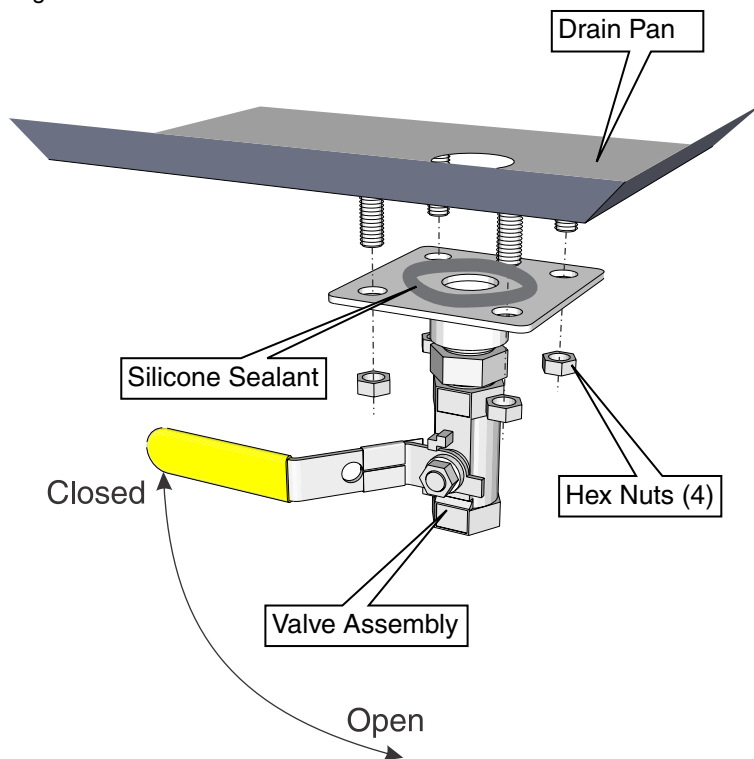

Figure 3.6 Drain Valve Assembly Installation
4. Apply a light bead of silicone sealant to the mounting surface of the Drain Assembly and attach the assembly to the bottom of the cabinet using four (4) 1/4"-20 Hex Nuts as shown in Figure 3.6